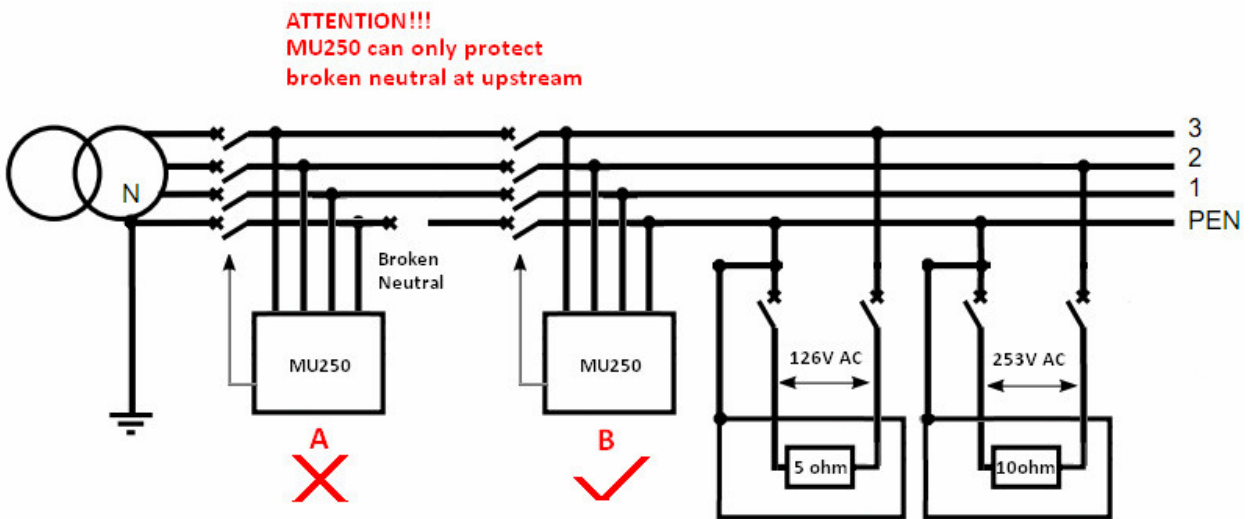

Figure 5: Voltage relay can only protect when broken neutral is at upstream
- The voltage relay can only protect downstream equipment from upstream broken neutral (See Figure 5). It is recommended that the voltage relay is installed near the load that it wishes to protect.